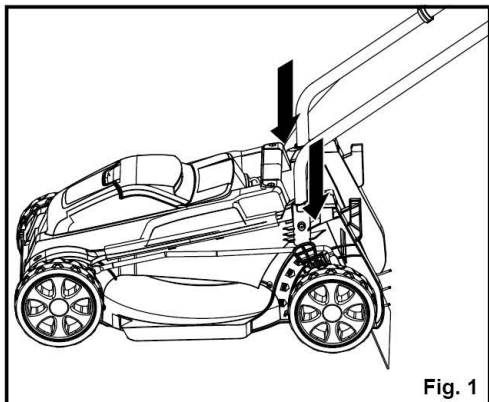

Fig. 1
1. Insert the lower handles into the slots on the lawnmower housing. Ensure the handles are secured into place (Fig. 1).